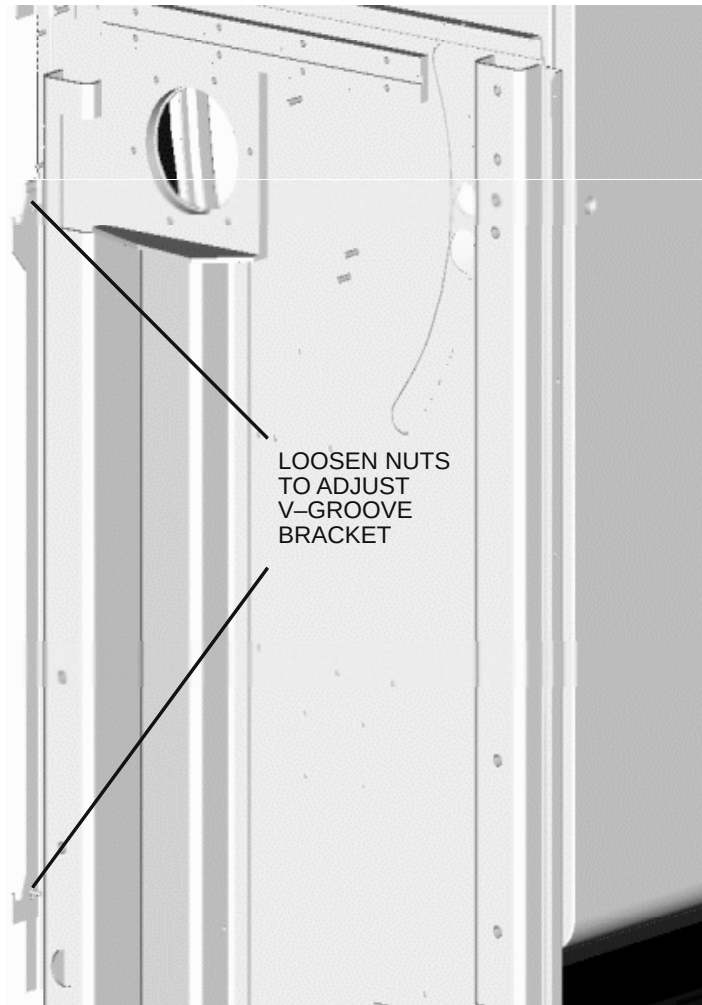

FIGURE 11 V-GROOVE BRACKET ADJUST
9. If the gap is not within the allowable range, raise the Front Upper Cover, remove the Lower Right Column Cover, and adjust the height of the V-groove Mounting Bracket. Refer to Figure 11. Continue to check the clearance between the Lower Right Column Cover and the Front Upper Cover and make sure it is within the allowable range of 0.100 to 0.250 inch.